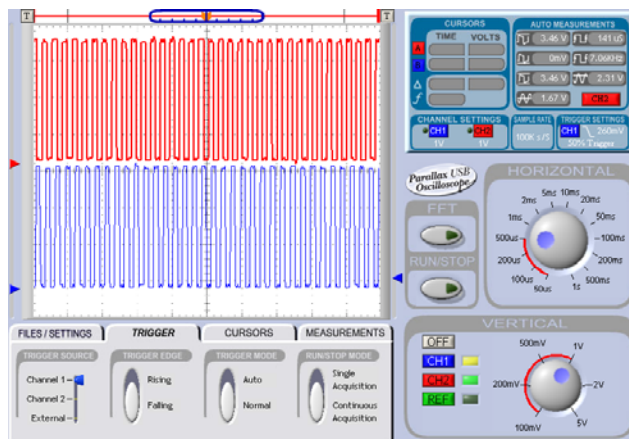

Figure 2.3-1
4. Set the oscilloscope to 1 volt vertical on both channels and 500 μ s horizontal, trigger on channel 1 rising, trigger level about 0.5v, continuous acquisition, see figure 2.3-1.
6. Turn the oscilloscope run mode on and observe the waveforms. The ideal waveforms are shown in figure 2.3-1. The pattern should be uniform and free of missing pulses or ragged pulses.